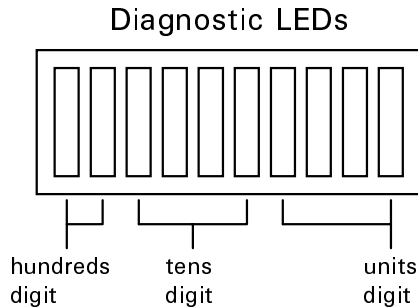

Figure 1. BCD-coded LED Display
- BCD pattern (left-most two LEDs encode the hundreds digit; next four, the tens digit; right-most, the units digit; see Figure 1)